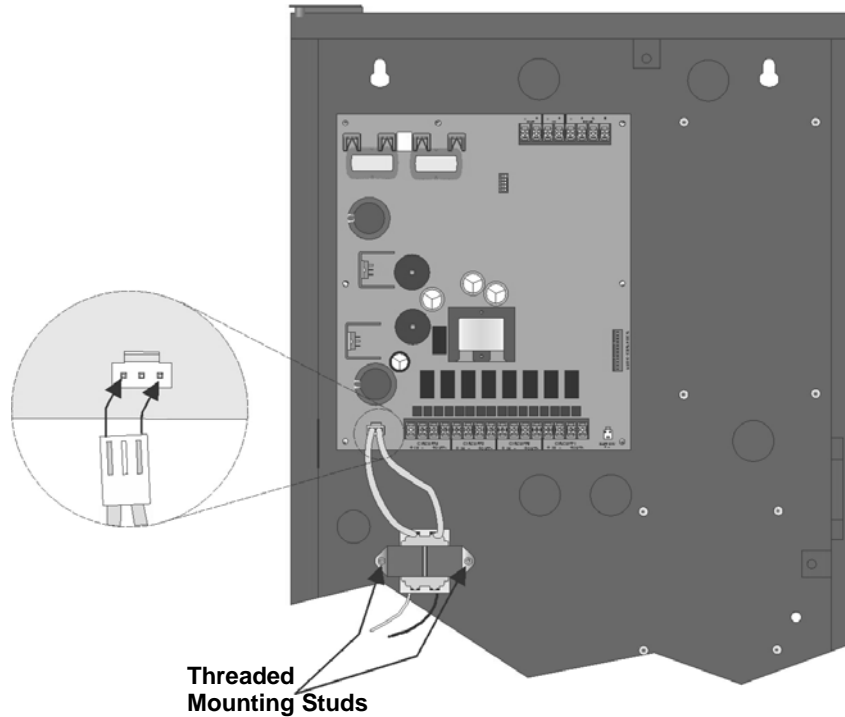

Figure 4-30 Transformer Mounting
3. Mount the transformer onto the threaded cabinet transformer mounting studs using the supplied locking hex nuts as shown in Figure 4-30.